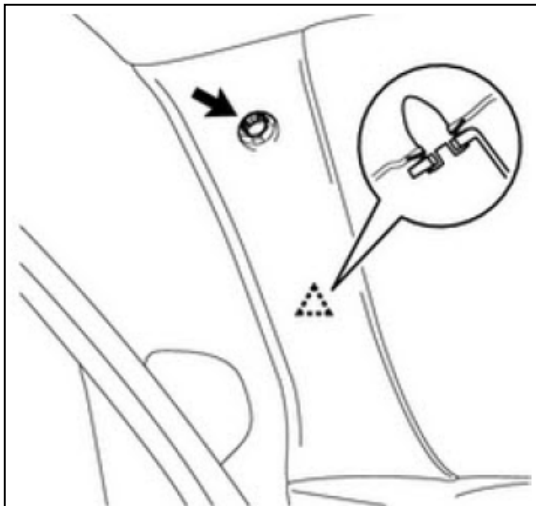
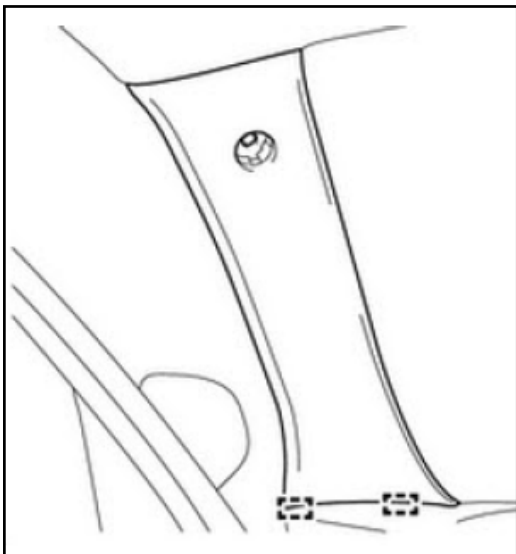

Figure 7A
Figure 7B
7. Remove the bolt and detach the clip. See Figure 7A. Detach the 2 guides to remove the front pillar garnish LH. See Figure 7B.